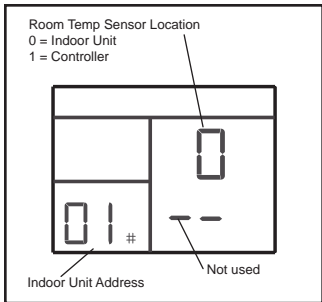

**Figure 8. Indoor Unit Operation Status**
- Indoor unit operation status (Figure 8)